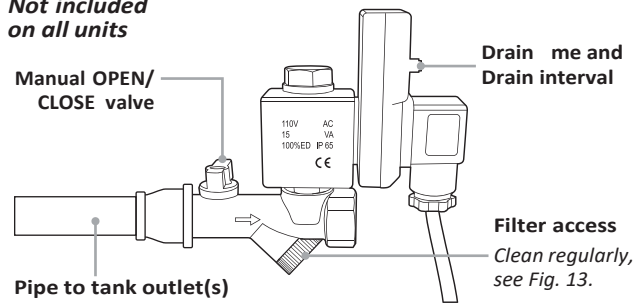

Figure 4: Auto Drain Feature
2. Set timers to desired settings. See figure 4. If drain is used for multiple units, increase timer settings as needed.